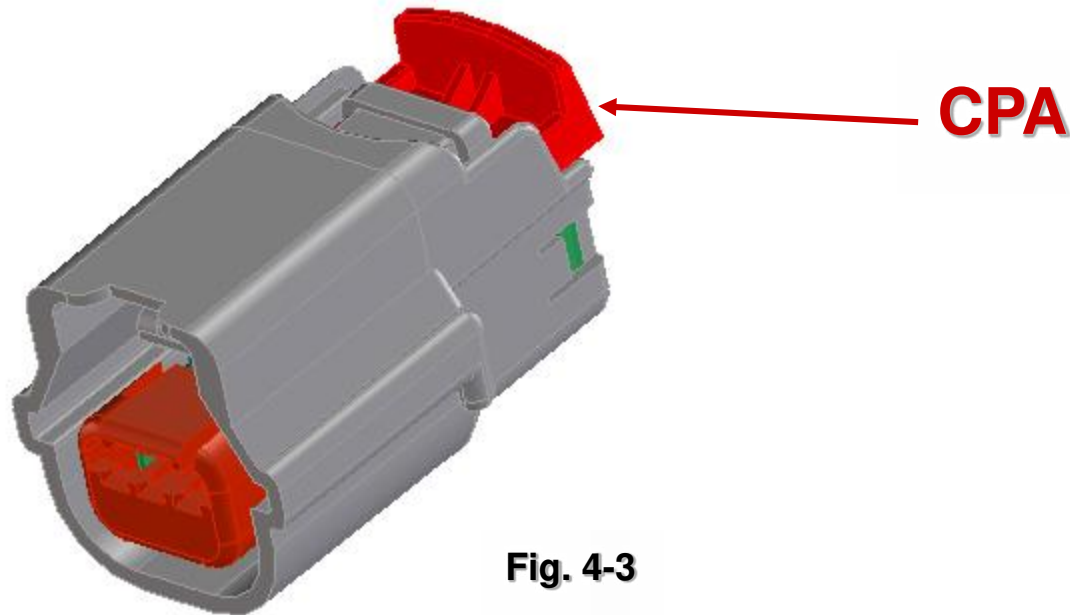

Fig. 4-3
- With the connector mated the CPA can now be engaged. Push the CPA toward the mating surface until it clicks into its locked position (Fig. 4-3).